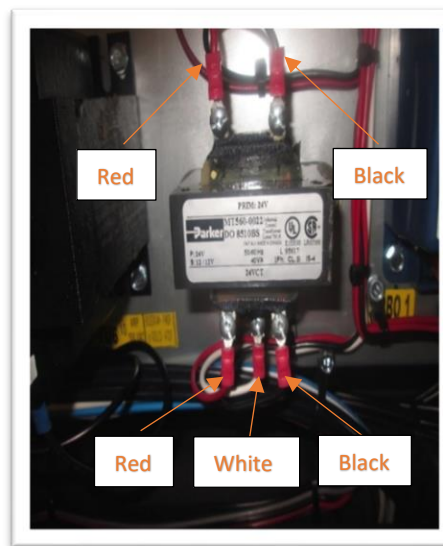

Figure 2. 24VCT Wire Routing
- b. Ensure that the top/primary side of the 24VCT center tap transformer has the correct wiring routed to the top of the transformer. This needs to be red on the left and black on the right (see figure 2). This will have a 24-volt VAC reading at the top.
- c. Ensure that the bottom/secondary side of the polarity-sensitive 24VCT center tap transformer is wired red, white, then black (left to right, see figure 2).